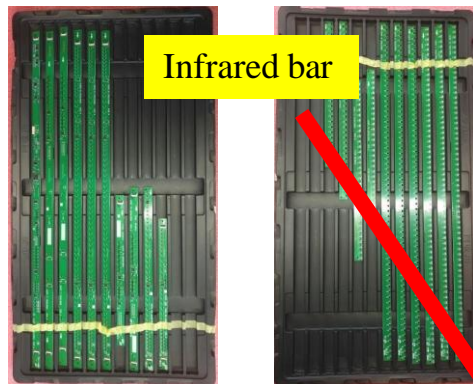

Figure 1
1. Figure 1 shows what our touch bar looks like. If you choose to purchase the touch bar as a spare part, you will receive a complete set of spare parts, not just one.